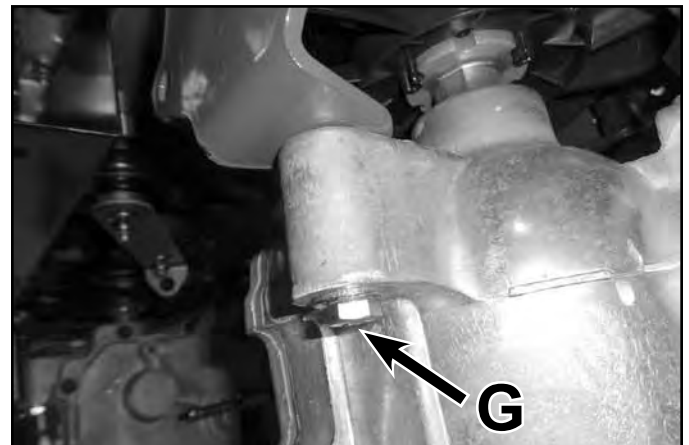

Fig. 073
3rd - Torque fastener (G) to specification – 17 ft-lbs. (23 Nm) (Fig. 073)